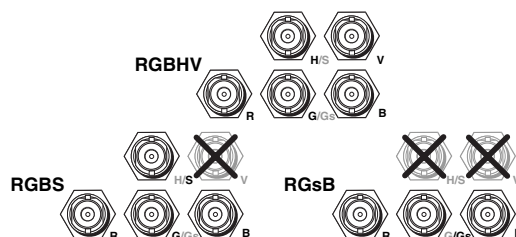

Figure 2-4 — BNC output connections for RGBHV and RGBS video
- ⑤ **Output BNC connectors**— Connect an RGBHV, RGBS, or RGsB video display to these female BNC connectors. Figure 2-4 shows how to connect the various video formats.